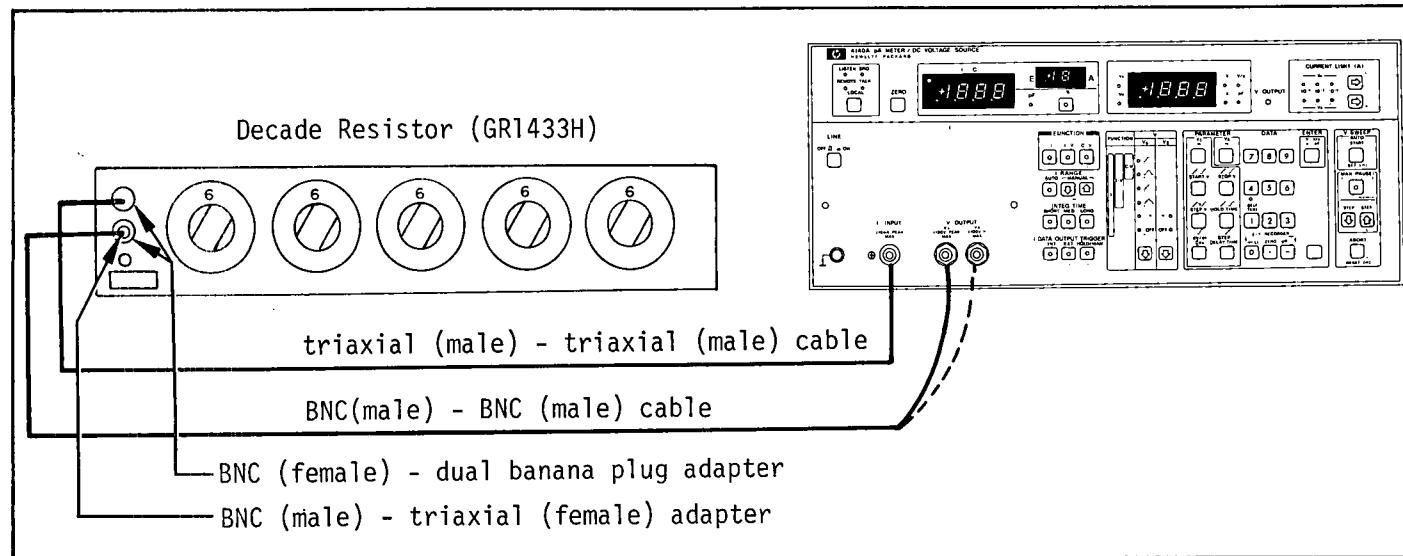

Figure 4-4. Current Limit Test Setup.
1. Connect Decade Resistor between VA OUTPUT and I INPUT connectors of 4140A as shown in Figure 4-4.